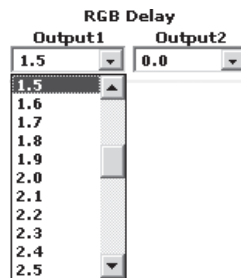

Figure 6-3 — RGB delay scroll box
1. Click the RGB Delay field for the desired output. A drop down scroll box appears (figure 6-3).